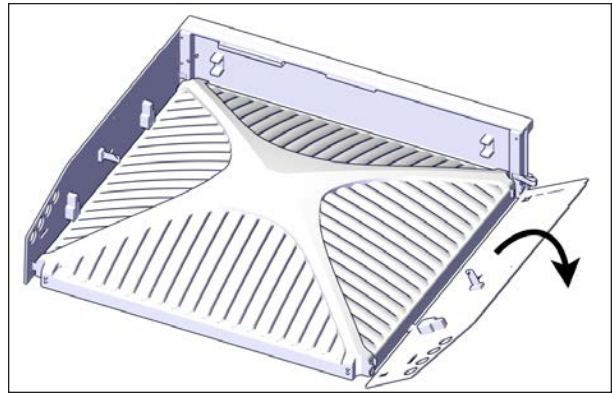

FIGURE 31: PIVOT GENTLY THE SIDE PANELS
20. Pivot the side panels by gently prying them outward; lay the panels down on the ground see Figure 31.